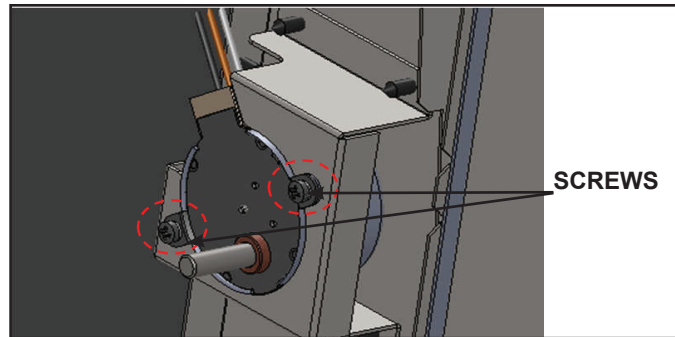

Figure 19. Remove Motor Screws
16. Remove the two screws on the motor. See Figure 19.